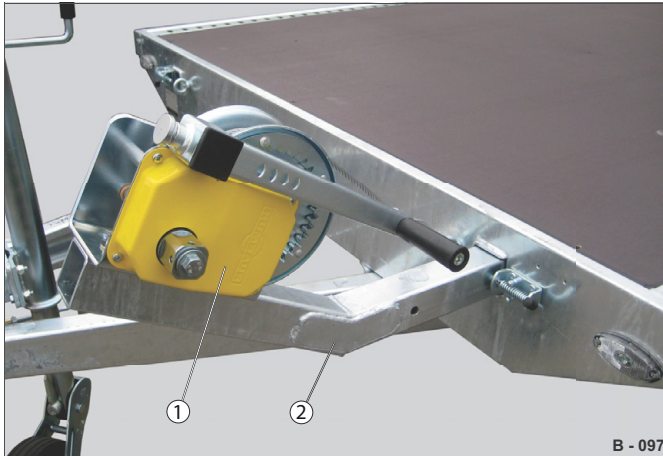

Fig. 37 Version 1: Cable winch, interchangeable
- ▶ Position the cable winch frame (Fig. 37 /2).
- ▶ Switch the handle to parking position (see Fig. 37) and secure it.